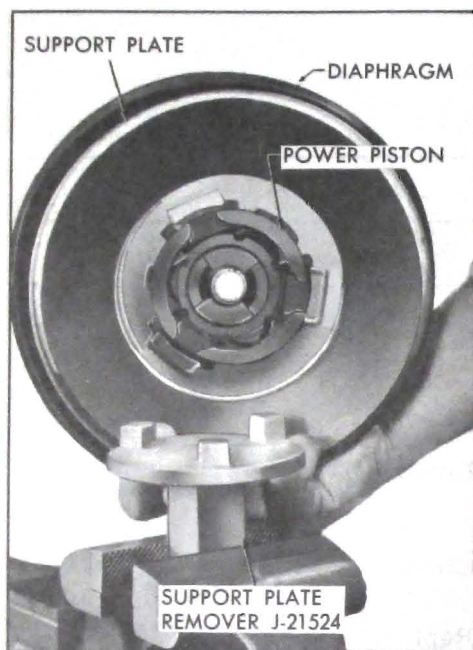

Figure 9-29—Positioning Power Piston in Wrench
3. Place the Power Piston Wrench, J-21542 in a vise. Position the power piston on the wrench with the three lugs fitting into the notches in the power piston. See Figure 9-29.